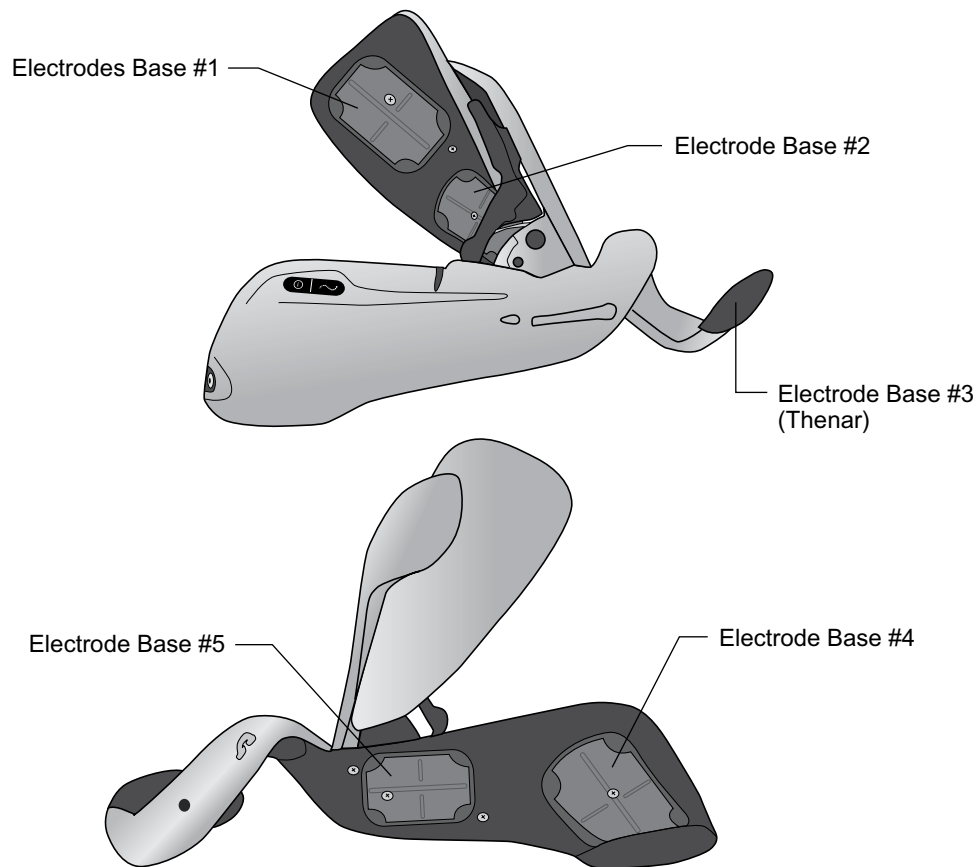

Figure 6-19: Electrode Bases #1-#5
4. Match each cloth electrode to its corresponding electrode base. See Figure 6-19.